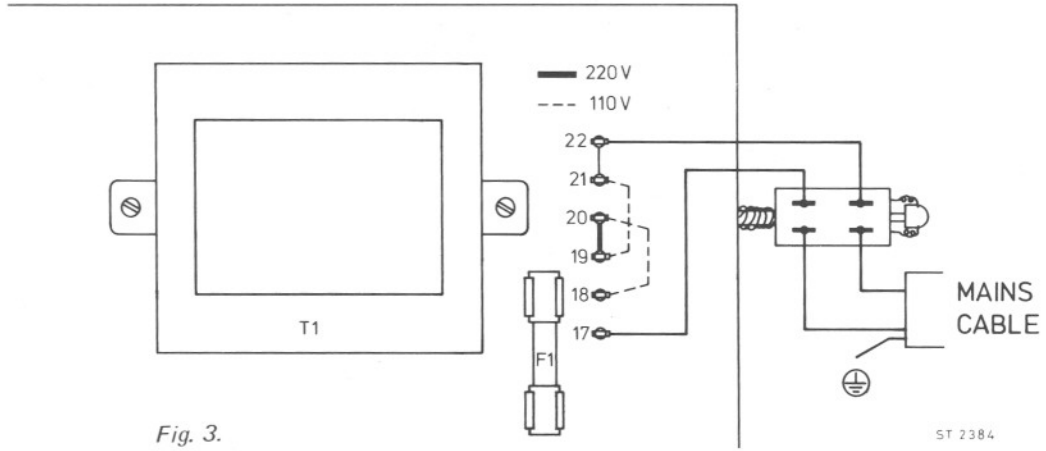

Fig. 3.
Adaption of the instrument for other mains voltages is possible by altering the wiring of the mains transformer (see fig. 3 page 26)
- Change the wiring of the transformer according to figure 3 page 26
- The value adjusted by means of the wiring of T1 (see fig. 3) must correspond with the local mains voltage